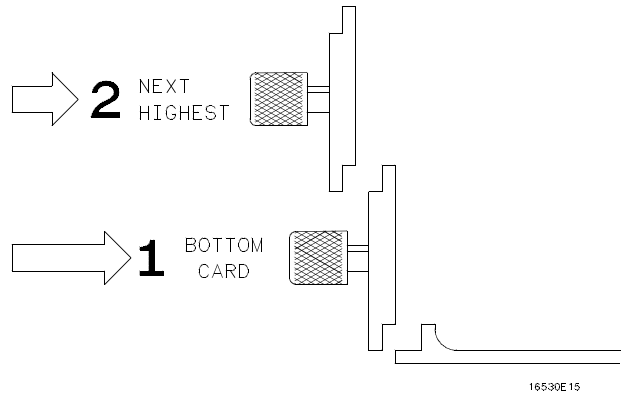

Figure A-3. Endplate Overlap (Installing)
- h. Repeat for all cards and filler panels in a bottom to top order. See figure A-3.